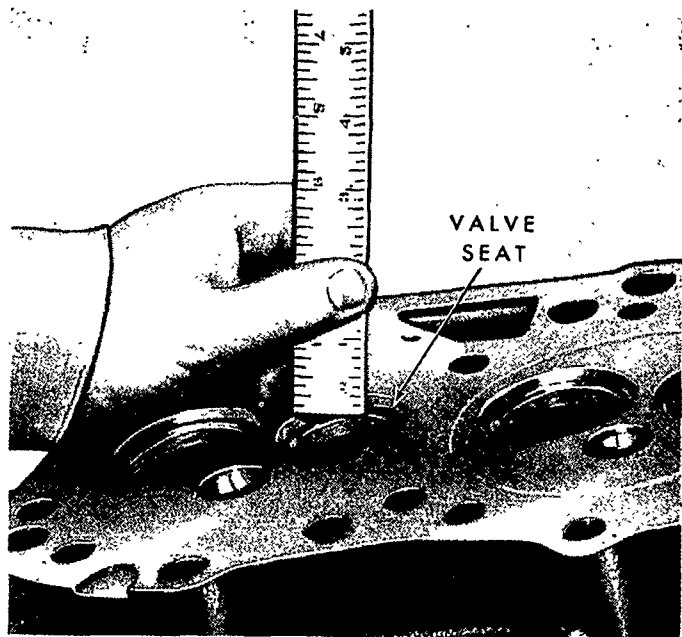
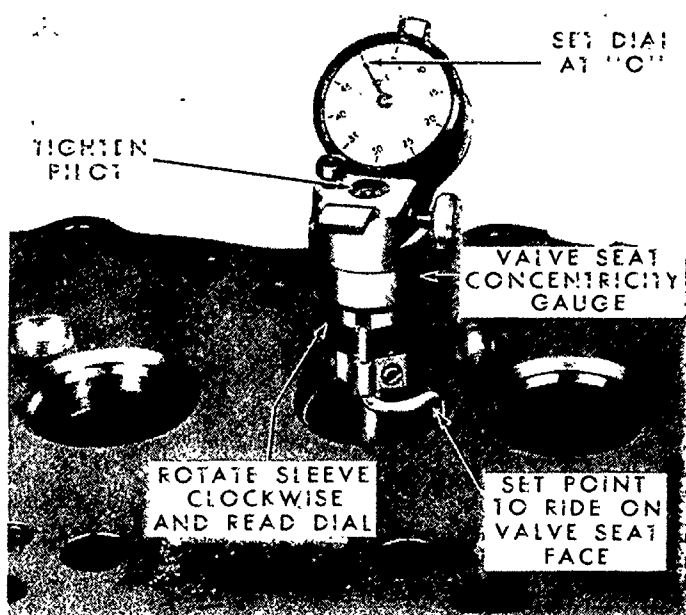
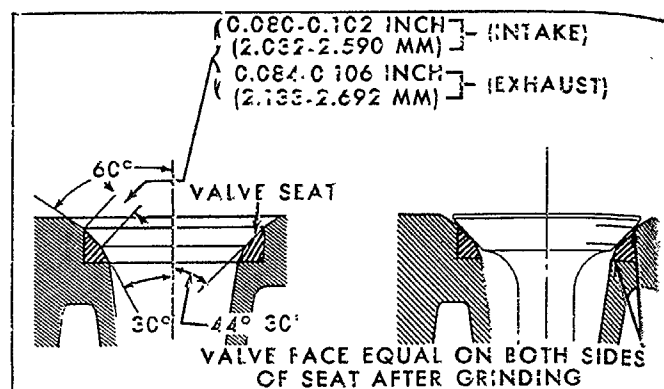

Figure 14
Figure 15
Figure 16
6. Measure the width of the valve seats, Figure 14, and reface the seats if they do not meet the specifications shown in Figure 16.
7. Measure the concentricity of the valve seat with a suitable gauge, as shown in Figure 15, or with Prussian Blue. If the valve seat runout exceeds 0.002 in. (0.0508 mm.) reface the seat. Refacing the valve seat should always be co-ordinated with refacing of the valve face so the finished seat will match the valve face and be centred. This is important so that the valve and seat will have a good compression-tight fit. Grind the valve seat to a true $44^{\circ}30'$ angle, Figure 16. Remove only enough stock to clean up the pits and grooves or to correct the valve seat runout. After the seat has been refaced, measure the seat width, Figure 14, to be sure it
is to the specification shown. Narrow the seat, if necessary, to bring it within limits. If the valve seat width exceeds the maximum limits, remove enough stock from the top edge and/or the bottom edge of the seat to reduce the width to specifications, Figure 16. Be sure that the refacer grinding stone is properly dressed.